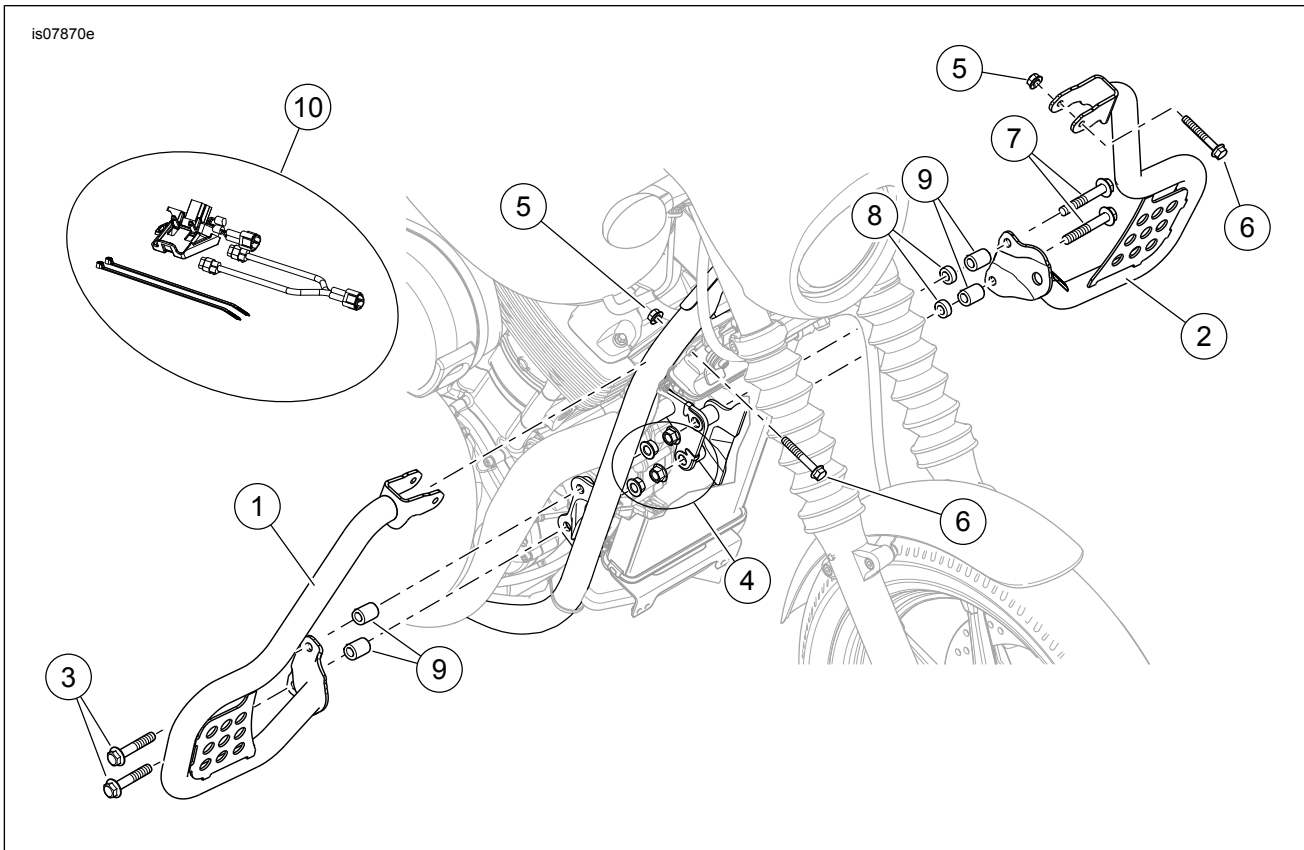

Figure 1. Kit Contents: Engine Guard Kit
See Figure 1 and Table 1.
1. See Figure 1. Secure right guard and engine mount using the hardware (3, 4, 9) provided.
3. Secure left guard and engine mount using the hardware provided: **Vehicles with horn mounted on left side engine mount:** Secure left guard using hardware (4, 7, 8). Install short spacer (8) between horn bracket and engine guard. **Vehicles with horn mounted behind radiator:** Secure left guard using hardware (4, 7, 9) install long spacer between frame and engine guard.
8. Install Dual Bank Angle Sensor Kit (10).